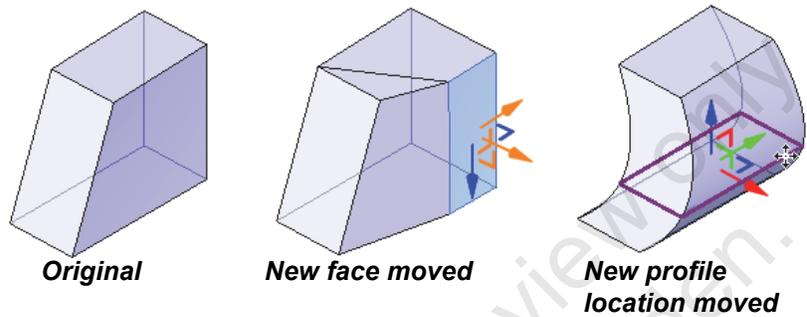

Figure 1–73
Once the edge or profile is placed, you can use the 3D control to create new shapes, as shown in Figure 1–73.
- If you cannot add an edge to a face,  displays, as shown in Figure 1–74.